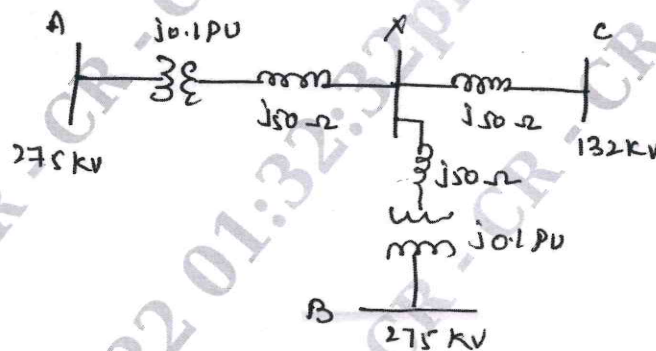

Fig.Q8(b)
- b. 3 – generating stations are connected to a common bus-bar X, as shown on Fig.Q8(b) for a particular system load, the line voltage at the bus bar falls by 2 KV. Calculate the reactive power injection required to bring back the voltage to the original value. All PU values are on a 500 MVA base.